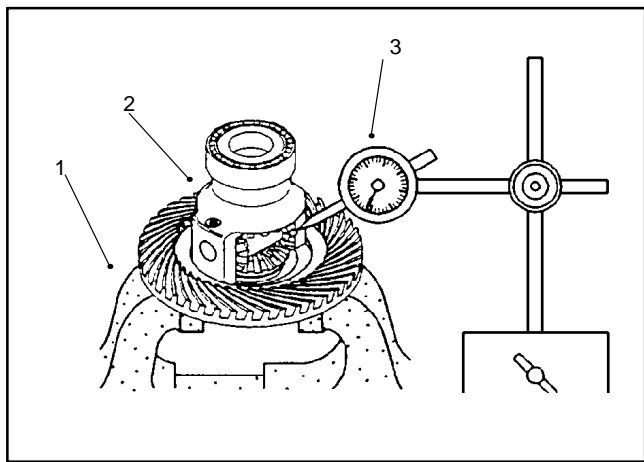

Figure 37
5. Secure the differential case in a vise. Position a dial indicator at the tooth's center and measure the differential pinion gear to side gear backlash (Fig. 37).